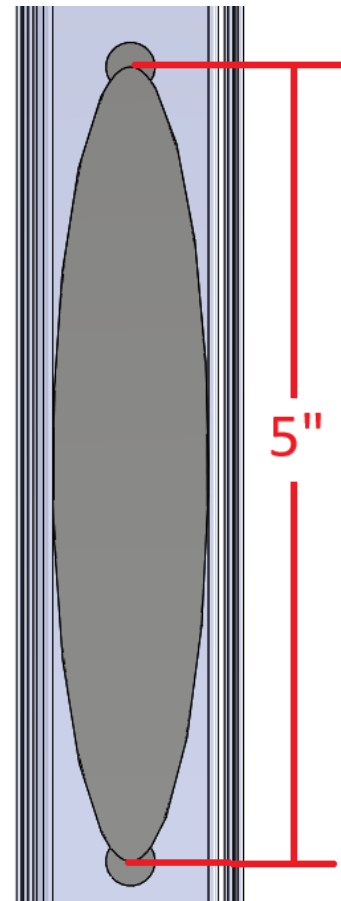

Figure B1:
4. Cut out the 5" section of glazing vinyl as shown (Figure B1).